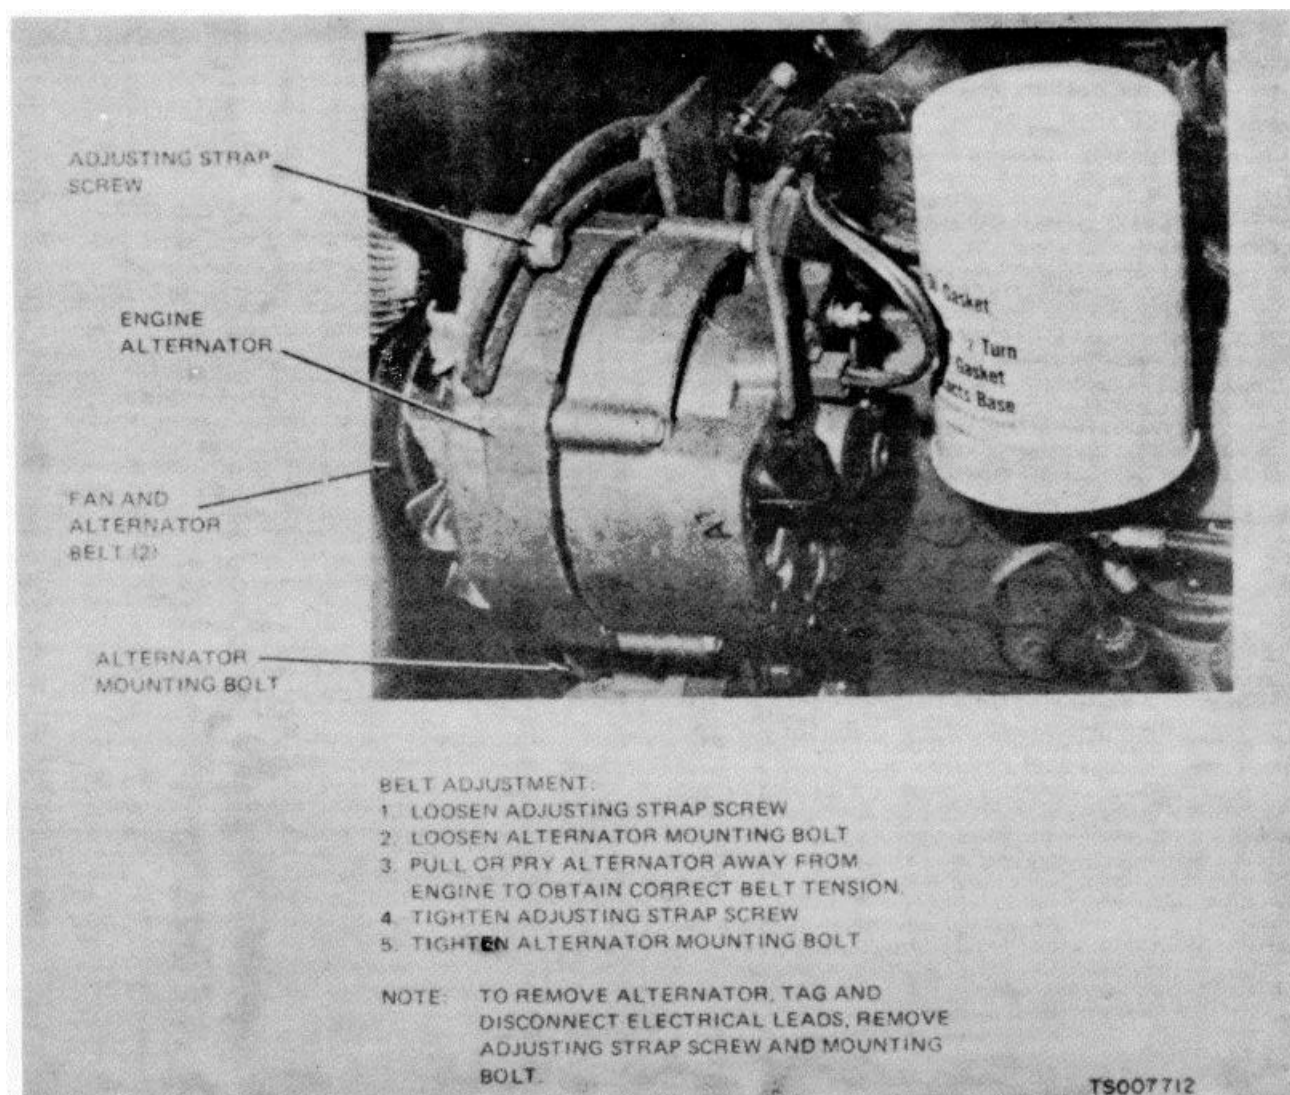

Figure 4-39. Fan and Alternator Belt Adjustment and Replacement, and Alternator Replacement
a. Adjustment. The fan and alternator belts must be tightened so that they can be deflected between 3/4 and 1 inch at a point midway between the crankshaft pulley and the fan drive pulley. If necessary, adjust the belts as shown in figure 4-39.
- (1) Loosen the adjusting strap screw (fig. 4-39) that secures the adjusting strap to the alternator. Push the alternator toward the engine to relieve all belt tension.
- (2) Slip the belts from the pulleys and over the fan to remove them.
- (3) Slip the new belts over the cooling fan